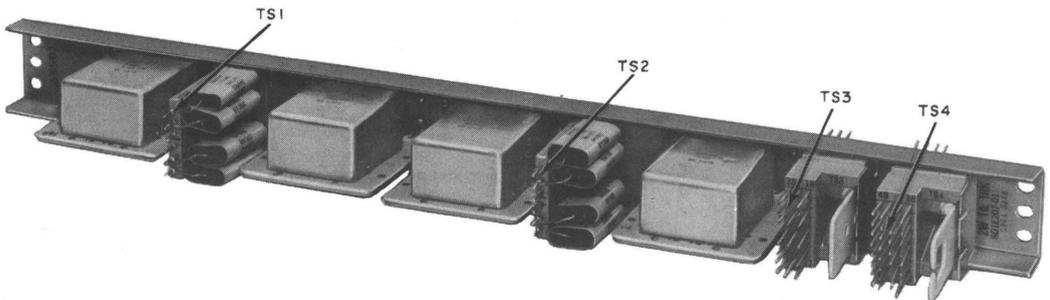

Fig. 2—J53050D, List 1 Interconnecting Unit
- J53050D, List 1 Interconnecting Unit, for use with 2-wire facilities—each unit provides four voice coupler circuits. (See Fig. 2).